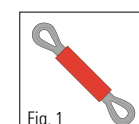

Fig. 1
**i** Special designs available on request. Protective sleeves can also be fitted by the user as shown in Fig. 1.